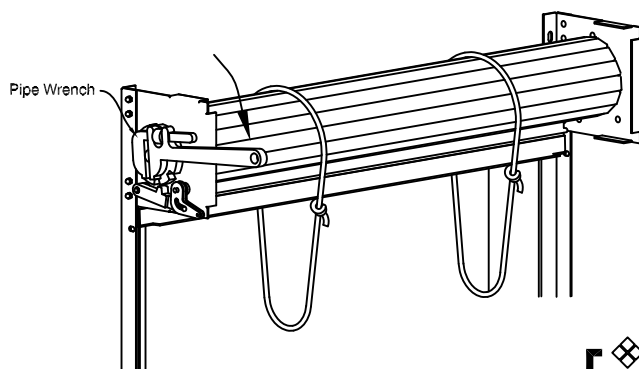

Fig. 15
a. When using a pipe wrench, begin to give tension, one or two turns will begin to roll the curtain onto the pipe assembly. NOTE: As the curtain rolls on the pipe, tension is being released, repeat giving tension until the bottom bar of the curtain reaches approximately one (1) foot from the bottom of the brackets. As shown in Fig. 15. NOTE: Lift the drop arm in the engaged position, to lock the charge wheel, in between turns.